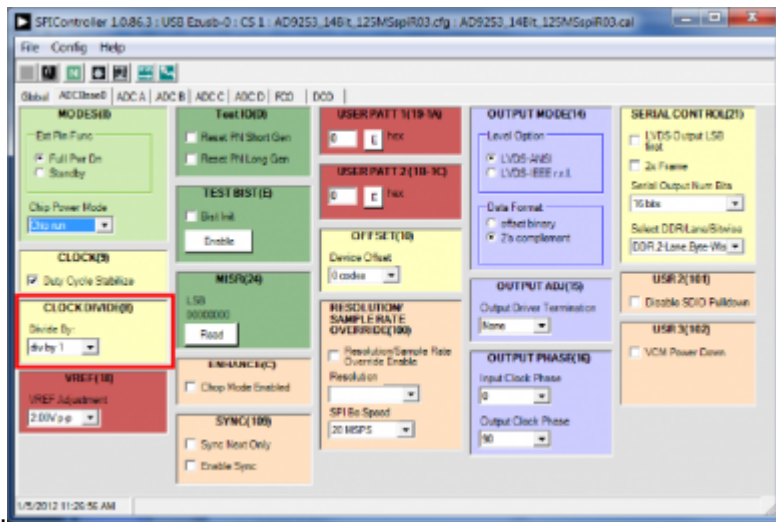
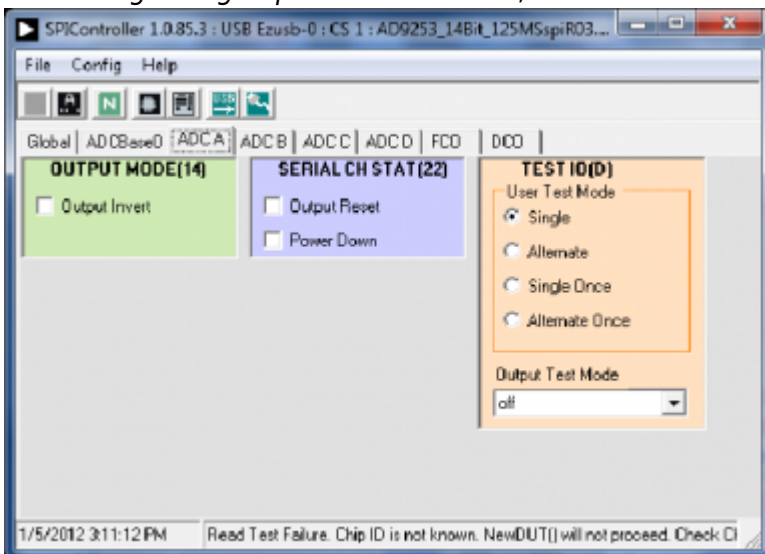

Figure 9. SPI Controller, CLOCK DIVIDE(B) Box
Figure 10. SPI Controller, Example ADC A Page
3. In the **ADCBASE 0** tab of the **SPIController** window, find the **CLOCK DIVIDE(B)** box (see Figure 9). If using the clock divider, use the drop-down box to select the correct clock divide ratio, if necessary. For additional information, refer to the data sheet, the AN-878 Application Note, High Speed ADC SPI Control Software, and the AN-877 Application Note, Interfacing to High Speed ADCs
- Note that other settings can be changed on the **ADCBASE 0** tab (see Figure 9) and the **ADC A**, **ADC B**, **ADC C**, and **ADC D** tabs (see Figure 10) to set up the part in the desired mode. The **ADCBASE 0** tab settings affect the entire part, whereas the settings on the **ADC A**, **ADC B**, **ADC C**, and **ADC D** tabs affect the selected channel only. See the appropriate part data sheet, the AN-878 Application Note, High Speed ADC SPI Control Software, and the AN-877 Application Note, Interfacing to High Speed ADCs via SPI, for additional information on the available settings.